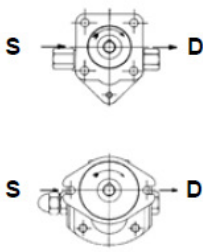

FIGURE 1
3. Suction/Discharge - SG Series pumps are designed for clockwise rotation as standard (viewed from end of shaft). Refer to Figure 1.